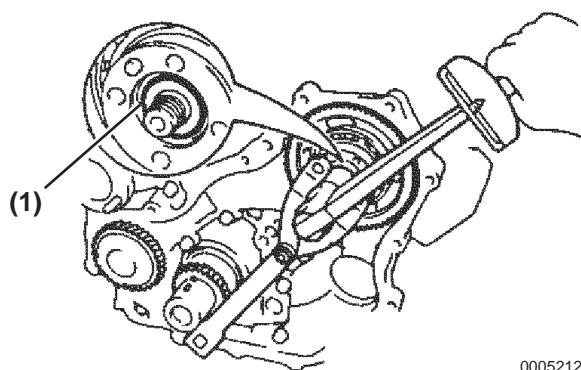

Figure 5-212
5. Install a new O-ring (**Figure 5-212, (1)**) in the drive gear groove.
7. Tighten the gear nut and torque to 1,000 kgf·cm, 98.07 N·m (72.3 lb·ft) (**Figure 5-212**).